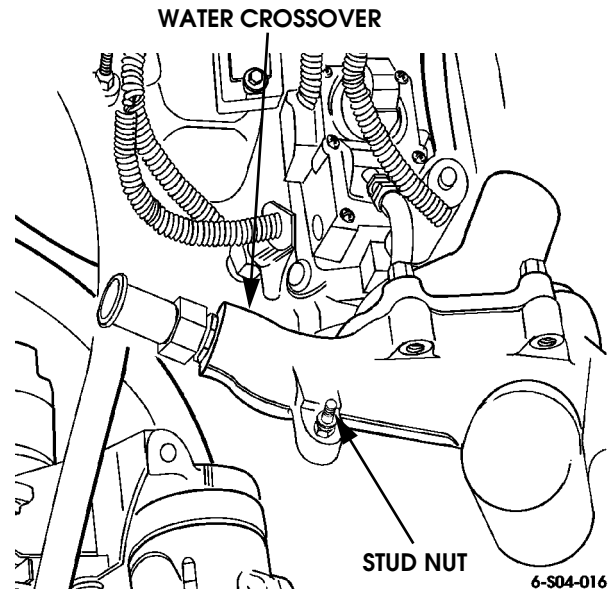

Figure 4-33: Water Crossover Attaching Hardware
7. Remove water crossover attaching bolts/nuts (Figure 4-33).